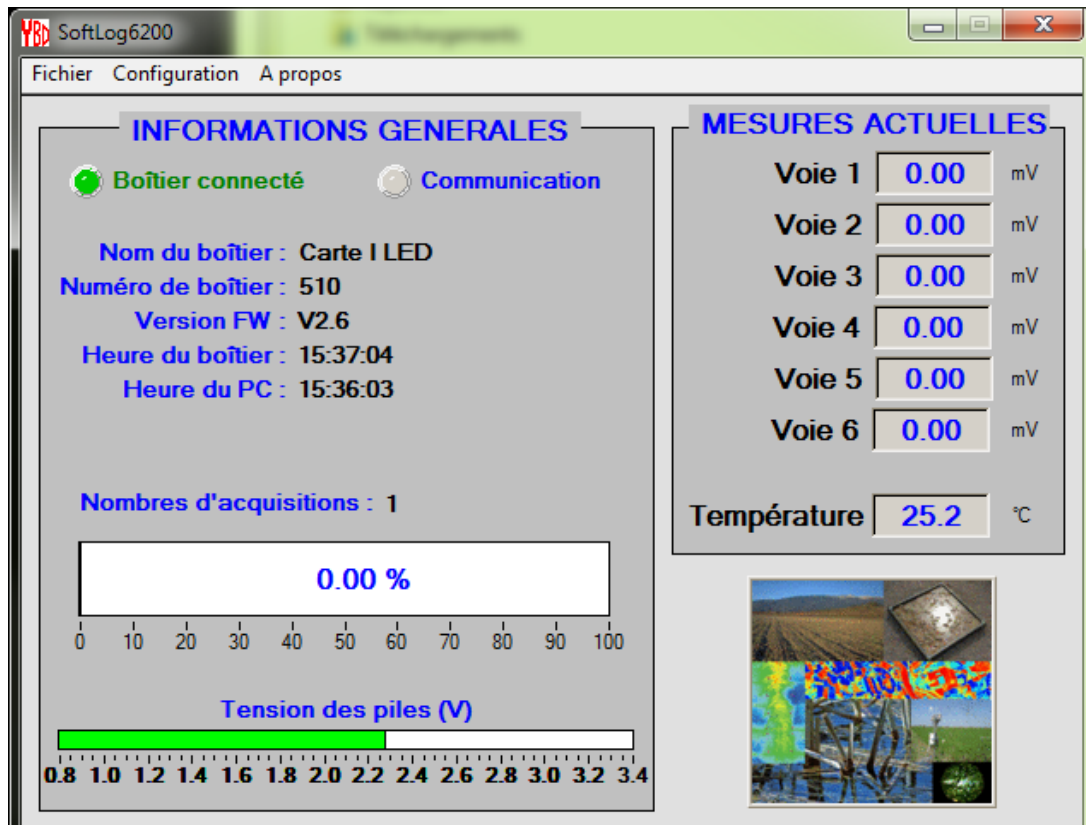

Figure 11. Checking that the data acquisition has been launched.
10. After the first acquisition, it is recommended to check that the system is functioning correctly by looking at the LOG6200 main window (Figure 11). The system and computer time must be quite equal (there might be a slight shift due to the screen updating), the number of acquisitions must be consistent with the time of acquisition start, and the channel values ("Voie") must be equal or higher than 0. **Note that if an INF or a NAN value is observed, the user must contact INRA.**